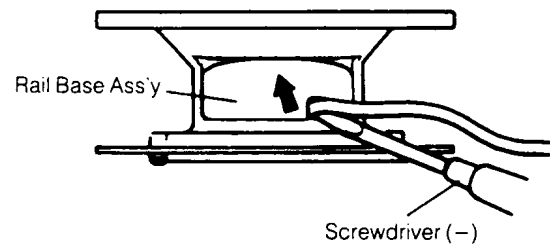

Fig.19
3. Insert a screwdriver from the side of the cord and push up the rail base. (Fig.19)